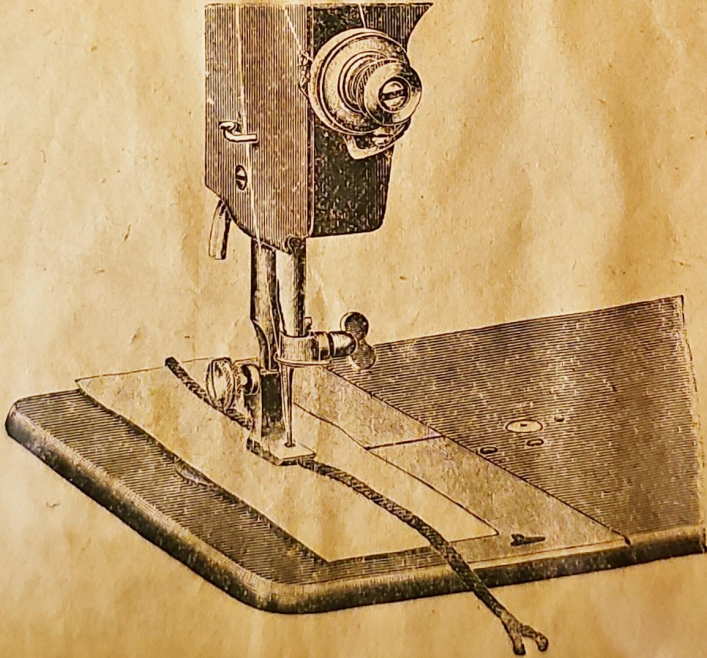

Fig. 17
7. The Corder No. 1 (Fig. 17).
The corder fig. 17 is furnished with one large groove on its undersurface. After dress material and lining have been seamed together spread them out and lay the cord in groove of the presser, and sew it with rather large stitches, exactly over the seam.